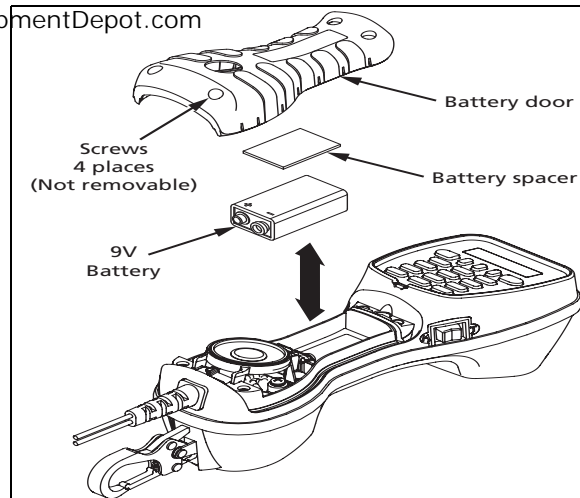

Figure 4. Battery Replacement
- 1 Use a Phillips screwdriver to loosen only the four screws attaching the battery door cover to the back of the test set (Figure 4).
- 2 Remove the battery door cover (Figure 4) and battery from the test set.
- 5 Place the battery door cover on the test set and fasten the four screws (Figure 4). Tighten screws to a maximum torque of 0.904 N-m or 8 in-lb.